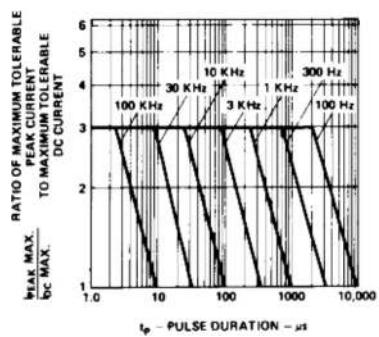

Figure 5. Maximum Tolerable Peak Current vs. Pulse Duration. (I_{DC MAX} as per MAX Ratings).
1. See Figure 5 (Red/Orange), 10 (Yellow), or 15 (Green) to establish pulsed operating conditions.